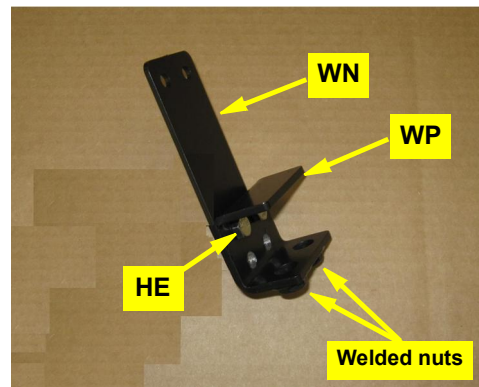

Figure 2a: Assembled WAS brackets
- a. Using hardware **HE**, fasten bracket **WP** to bracket **WN** with the welded nuts on **WP** at the bottom. Fasten bracket **WN** to the top holes in bracket **WP** (Figure 2a).